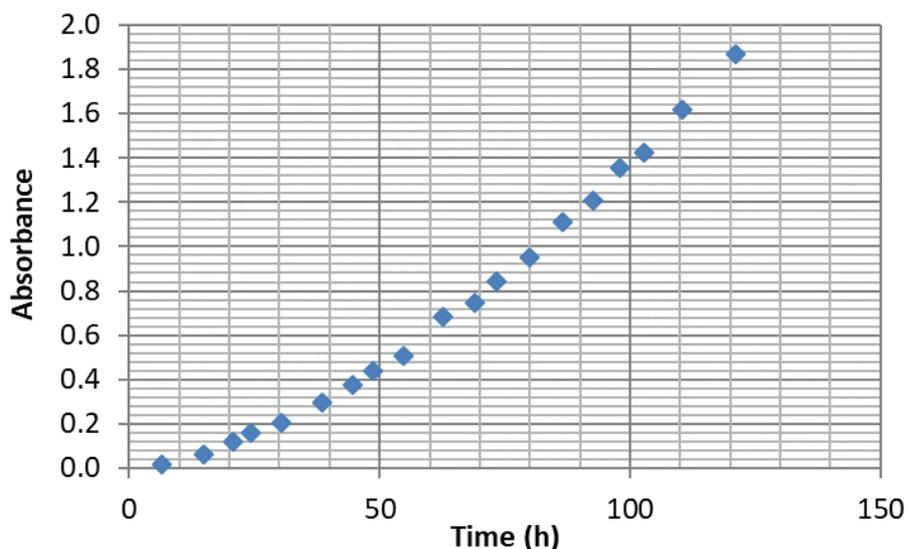

Figure 2: A_{470} (absorbance at 470 nm) as a function of time for the fructose - glycine reaction
A second experiment (B) was carried out by adding $n_{\text{Fru,B,0}} = 1$ mol of fructose and $n_{\text{Gly,B,0}} = 0.5$ mol of glycine without sodium metabisulphite to a 1 L sodium acetate/acetic acid buffer. A magnetic stirrer was used all along the experiment. Every 6 hours, the absorbance of an aliquot of 1 mL was directly measured at 470 nm in a cell of $l = 1$ cm. The obtained data is shown in figure 2. Given the steps (1) and (2), the concentration of the melanoidin product [M] can be written as:
8. **Determine** graphically the value of $\left. \frac{dA_{470}}{dt} \right|_{t=80h}$ derivative of A_{470} absorbance at 470 nm at $t = 80$ h based on figure 2.